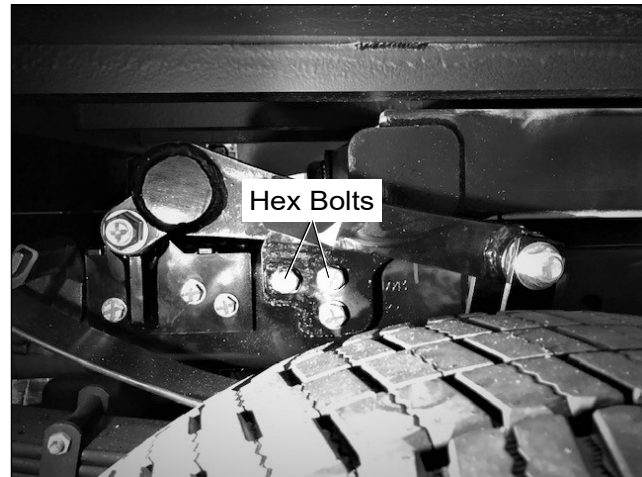

Figure 4 — Hex Bolt and Nut Fasteners
- If the fasteners are hex bolts and nuts (refer to Figure 4), complete the Evaluation Sheet at the end of the SIL. Proceed to step 6.